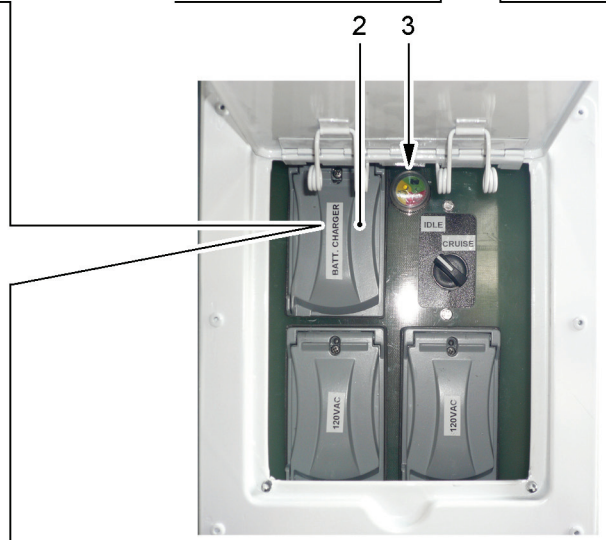

Figure 6.46 - Battery charger (Optional)
On the Induction Heating Generator IHG 120CU a battery charger (see Figure 6.46) may be installed as optional. The activation of the battery charger can be effected by simply connecting a 120 Vac socket to the electric plug (1) located inside the cover (2).
Do not power the command and control panel of the generator when the battery charger (see Figure 6.46) is operating.